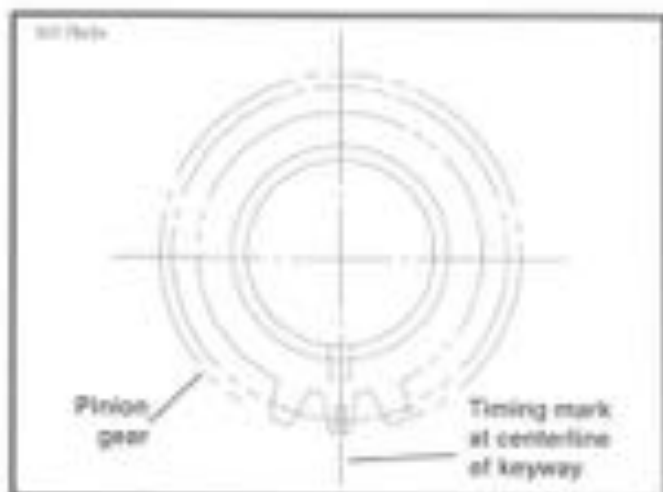
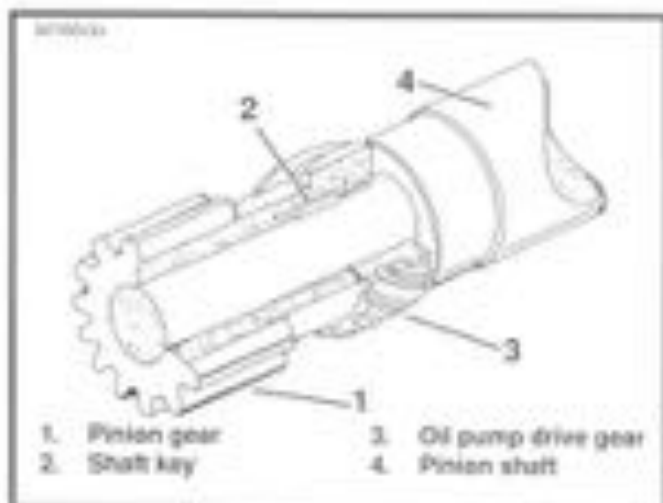

Figure 3-69. Pinion Gear Timing Mark and Keyway
Figure 3-70. Oil Pump Drive Gear and Pinion Gear Installed on Pinion Shaft
- See Figure 3-69. Install oil pump drive gear (12) and pinion gear (5) to pinion shaft. Note that timing mark on pinion gear tooth is aligned with keyway in I.D. of pinion gear, as shown in Figure 3-69. See Figure 3-70. The timing mark will allow you to easily position pinion gear (1) over shaft key (2) and against oil pump drive gear (3) on pinion shaft (4).
- See Figure 3-69. Clean pinion shaft threads and nut (11) threads. Apply several drops of LOCTITE® Threadlocker 262 (red) to threads of nut.